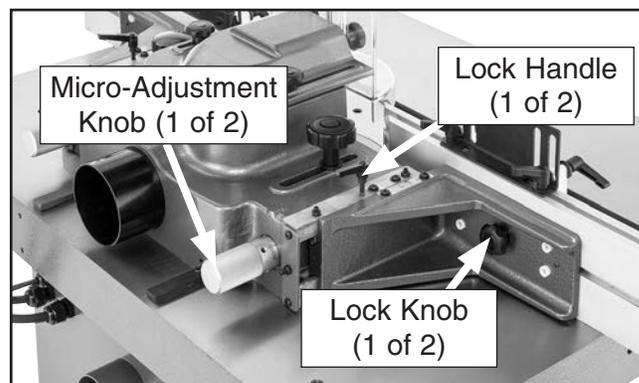

Figure 30. Location of fence controls.
1. Loosen fence lock handle (see **Figure 30**).
2. Turn fence micro-adjustment knob (see **Figure 30**) until fence is set to desired position.